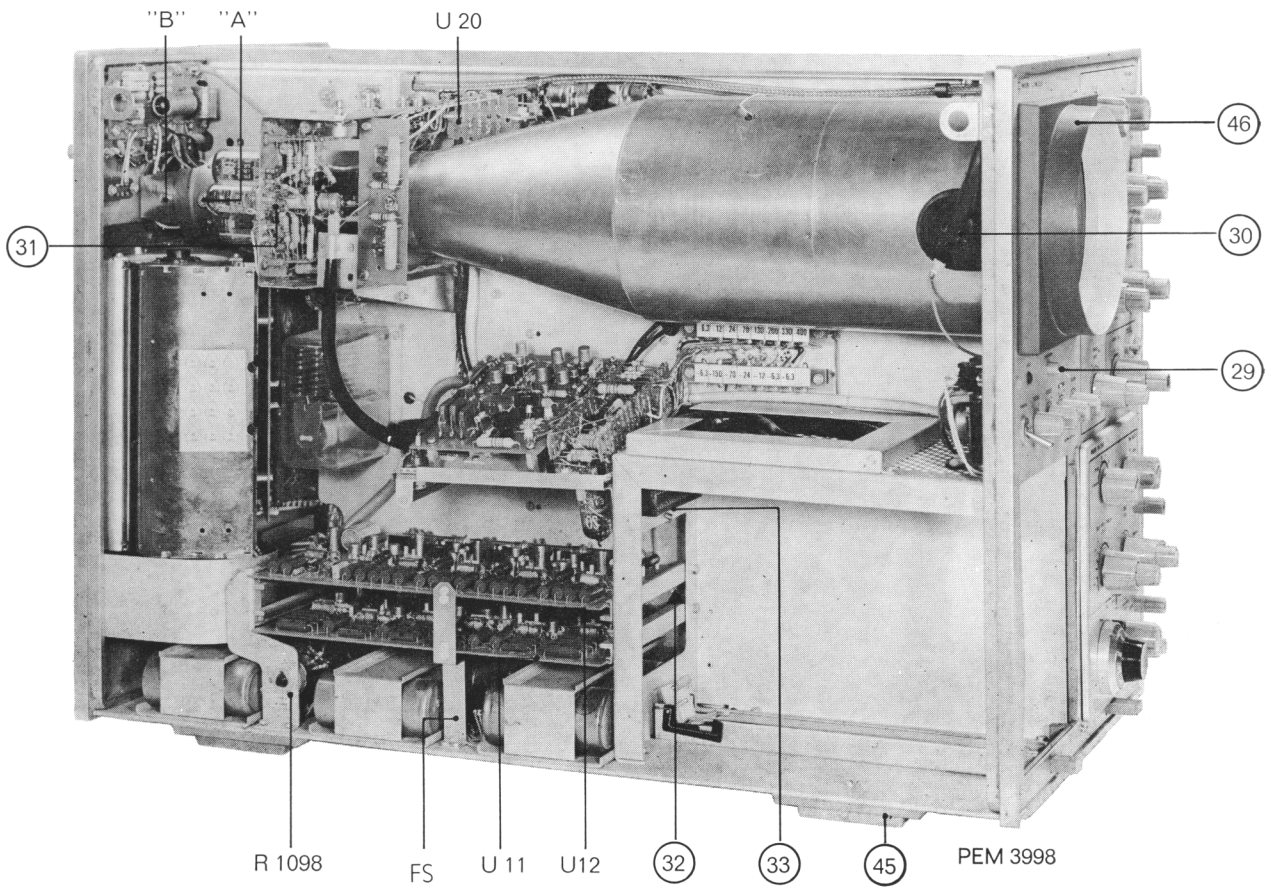

Fig. 71. Components at the interior (left side)
- Loosen bolt "A" (Fig. 71) a couple of turns
- Remove screw "B" (Fig. 71) entirely
- Unsolder the 4 wires of the quadrupole coil (L302–L303) from print unit U20 (Fig. 71)
G. PRINTED-WIRING BOARDS U11 AND U12 Fig. 71